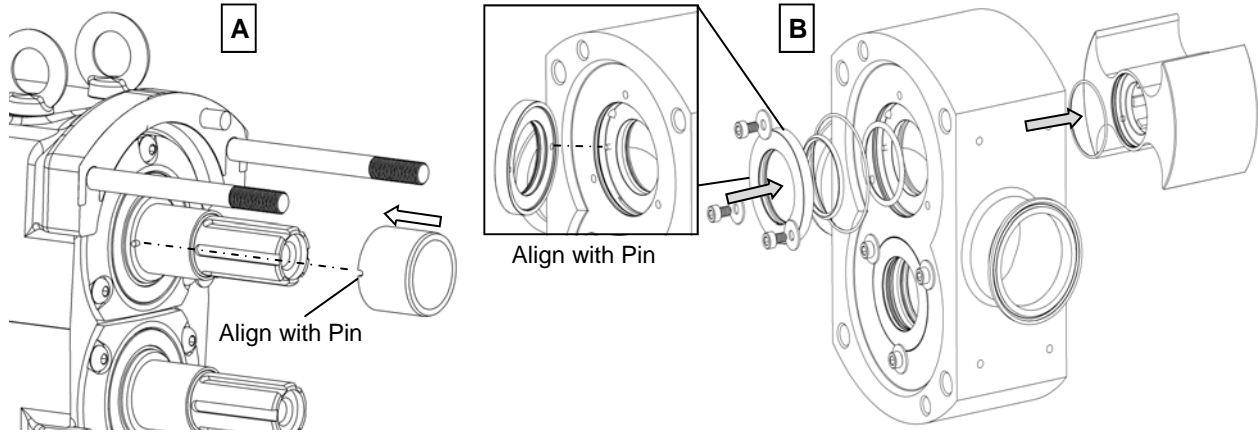

Figure 32: Double O-ring Seal Assembly
*Assembly:* Clean both shaft ends and the body before assembling. Slide the shaft sleeves onto the shafts until it seats on the shaft shoulder. Align the slot in the shaft sleeve to the drive pin on the shaft (Figure 32, A). Apply a light film of lubricant to NEW o-rings and insert them in the body, o-ring carriers, and rotors (Figure 32, B). Once all of the o-rings are installed slide the o-ring carriers into the body making sure to align the holes in the carriers to the pin in the body. The o-ring carrier should sit flush with the back of the body. Secure the carriers in place with the retaining bolts and washers. See Pump Assembly on page 31 to continue.